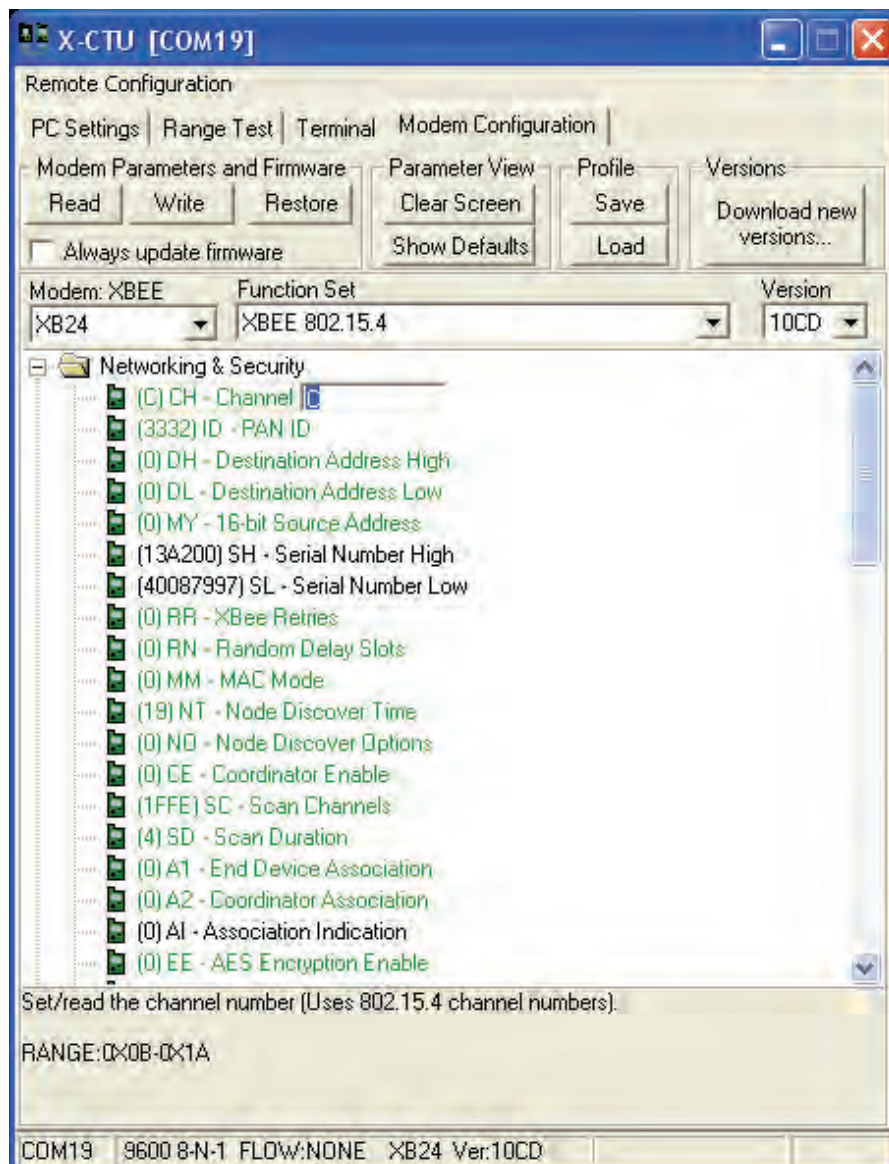

Figure 3-8: Using “Modem Configuration” to change settings
- ✓ Click the Read button. If all goes well, you should see the window populated by the current settings as shown in Figure 3-8.
To modify settings, click the setting, such as (C) CH – Channel as shown in Figure 3-8. The current setting is C. Note at the bottom of the window a brief description and valid range is provided. The channel (CH) may have a range of C to 1A on the XBee (non-Pro). On XBee-Pro it is C to 17. All parameters are in hexadecimal.